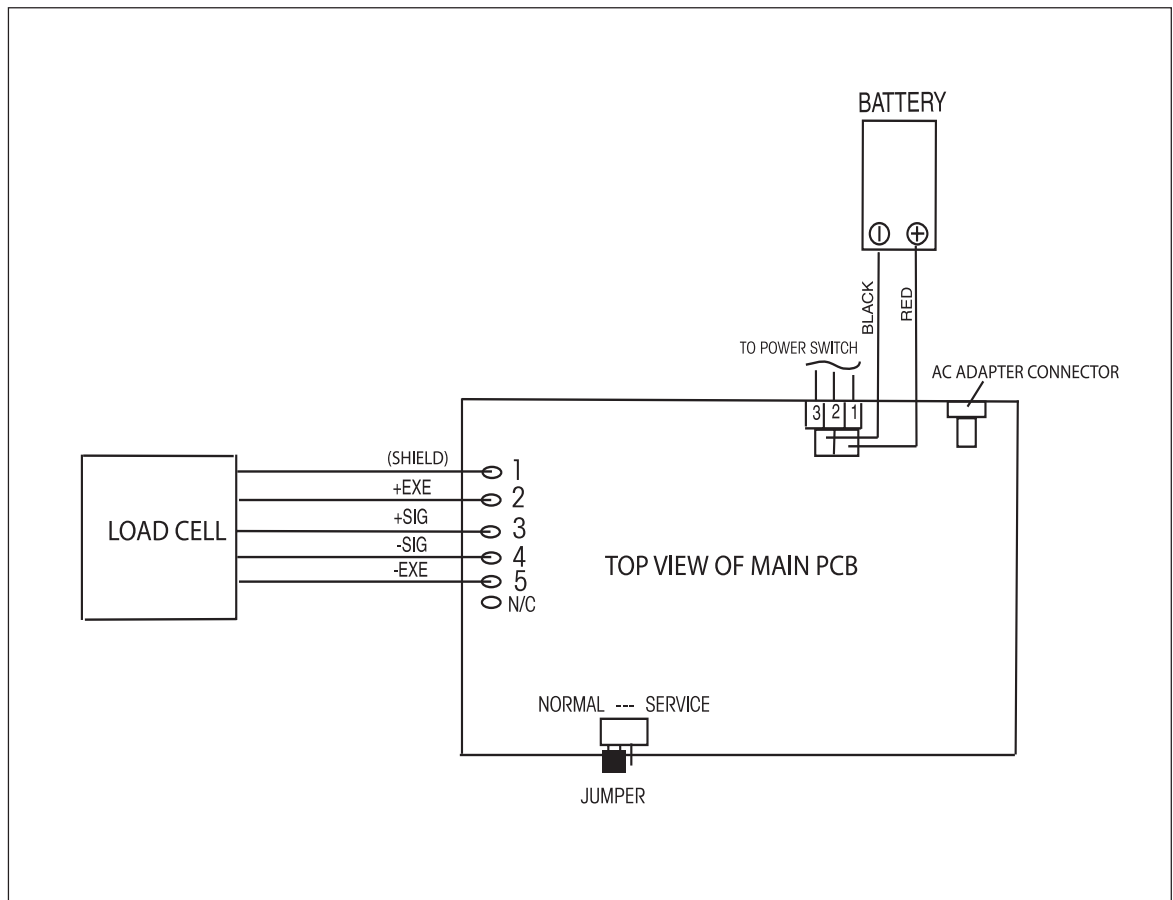

Figure 3-2. EC Series Scales Interconnection Diagram.
2. Refer to Figure 3-2 and record color code and position of the wires from the Load Cell.
2. Load Cell solder contacts can be used as measuring points. See Figure 3-2.
- Refer to Figure 3-2 and measure the voltages on points 3 and 4, +SIG and –SIG points. These measurements represent the output of the Load Cell. Repeat measurements at 50% and full scale capacities. See Table 3-3 for typical readings.
6. Refer to Figure 3-2, Interconnection Diagram which illustrates the interconnections to the Main PC Board and is shown as a top view.
9. Measure incoming power from the AC Adapter connector shown in Figure 3-2. The voltage should read above 6 Volts dc with power on.
4. Unsolder the Load Cell cable from the Main PC Board. Refer to Figure 3-2 for location.